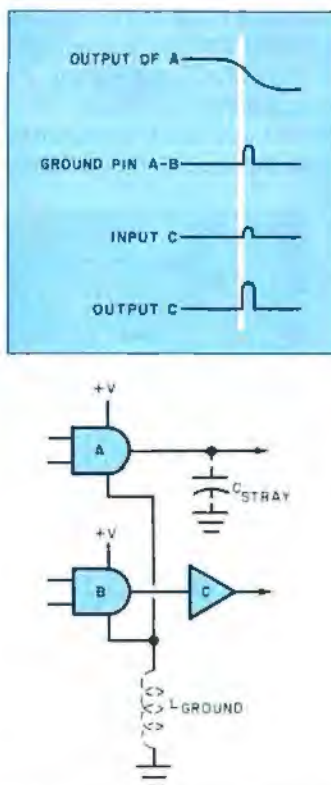

Fig. 1. Common ground inductance and stray capacitance cause "glitch" at output gate of C.
**Application.** TTL IC's have very good noise immunity characteristics and operate with a good tradeoff in speed. Even so, they must be used with some care in circuit design to minimize interaction between elements. For example, in Fig. 1, gates A and B can suffer from unwanted coupling through the invisible but very real inductance of the common ground lead that ties the two gates to the negative side of the power supply line and the input to buffer C that is not supposed to operate at this time.